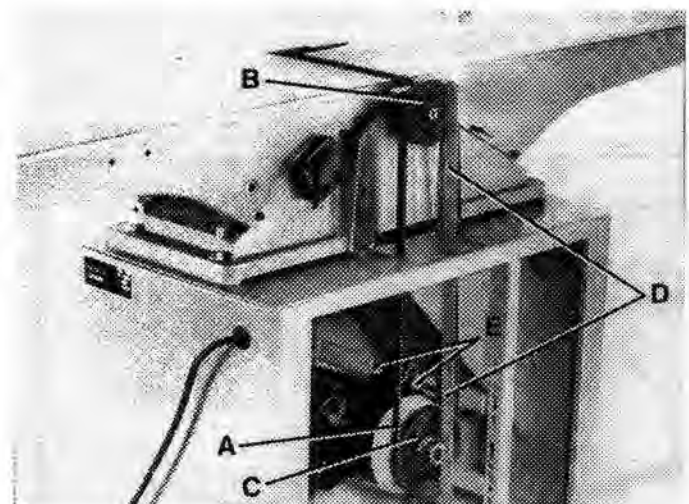

FIGURE 6
2. Make certain the motor pulley (C) Fig. 6, is aligned with cutterhead pulley (B) by placing a straight edge (D) onto the face of each pulley as shown.
3. If an adjustment is necessary, the motor pulley (C) Fig. 6, can be moved in or out on the motor shaft, or the motor can be moved by loosening four mounting screws, two of which are shown at (E) Fig. 6. After adjustment is made tighten the four mounting screws or the set screw on the hub of the motor pulley, depending on which adjustment you made.
Proper belt tension is obtained when there is approximately 1" deflection at the center span of the belts, using light finger pressure. If an adjustment is necessary, the motor can be raised or lowered by loosening four mounting screws, two of which are shown at (E) Fig. 6.